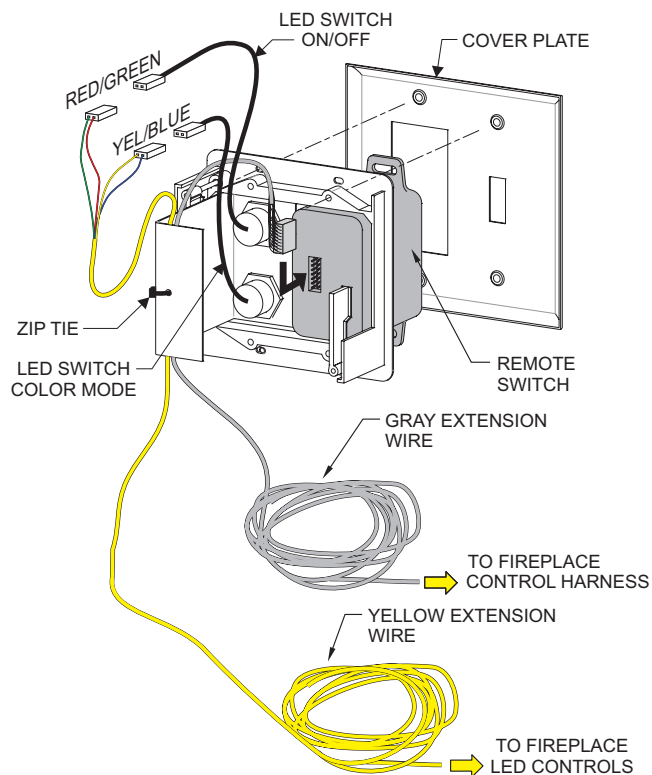

Figure 46
14. Route the yellow LED wire harness with gray remote receiver harness through the bushing. Mount the controls and connect the wiring. Secure wiring with provided zip tie as shown. **See Figure 46.**